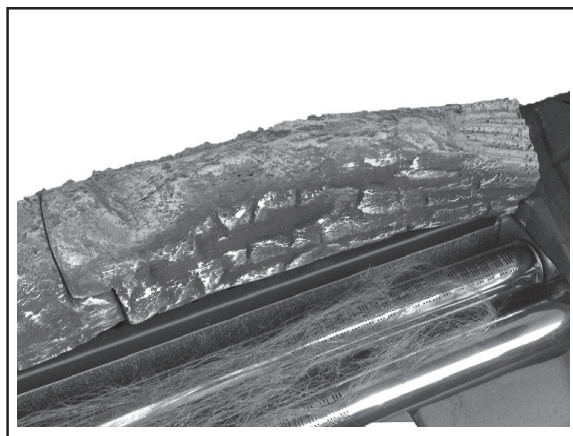

Fig. 5
5. Place the RHS rear Matrix ceramic log '2' in position as shown in fig.5. This ceramic log should locate into the recess cut in the RHS ceramic base.